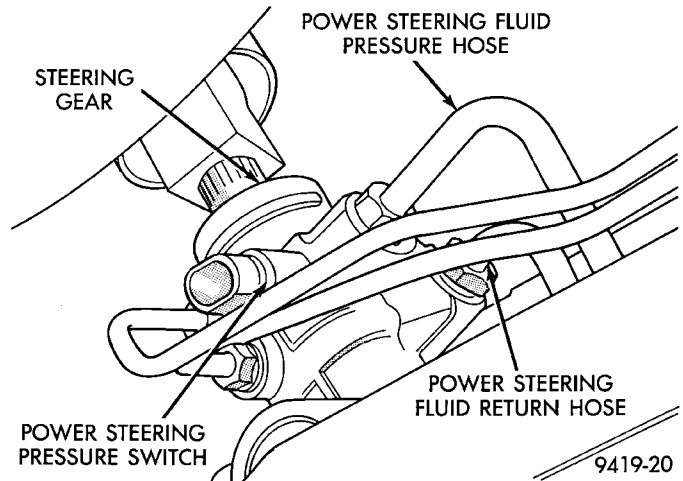

Fig. 10 Power Steering Fluid Pressure And Return Hoses
(9) If vehicle is equipped with power steering, remove power steering fluid, pressure and return hoses (Fig. 10) from the power steering gear assembly.
assembly (Fig. 10). Torque power steering fluid pressure and return lines to steering gear tube nuts (Fig. 10) to 31 N·m (275 in. lbs.).